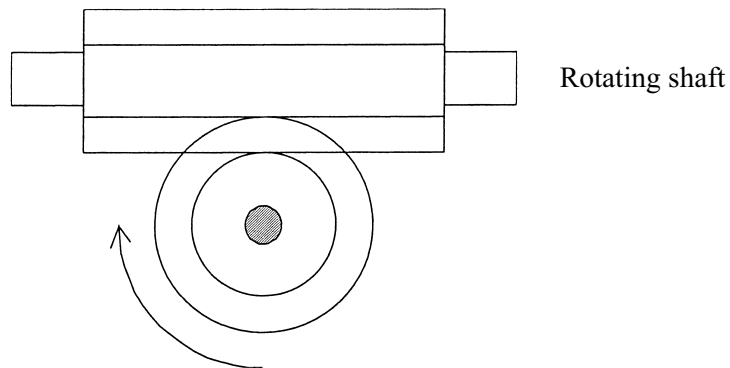

Figure 5
- (i) Identify the type of gear mechanism shown in **Figure 5** that is used in the steering mechanism.